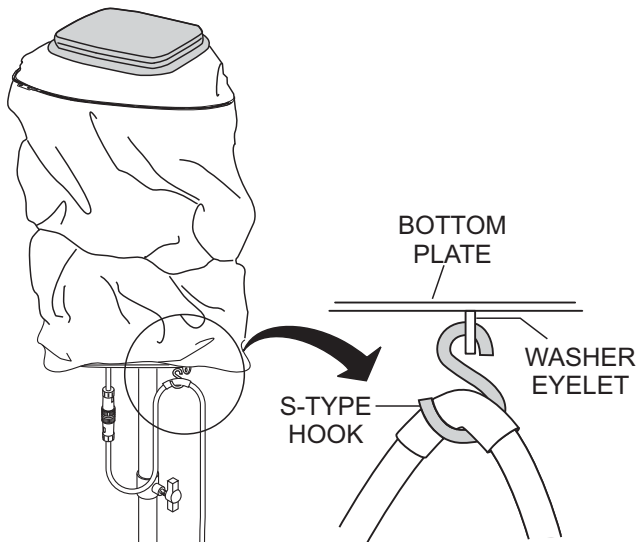

Figure 15. Securing Power Cord
- Attach the S-type hook (Figure 15) on the AC power cable onto the washer-eylet located on the bottom plate of the light assembly.
- Un-hook lamp AC power cable from washer eyelet (Figure 15). Place the AC power cable inside the protective cover (Figure 21). Fully zip protective cover and fold velcro tab in place.